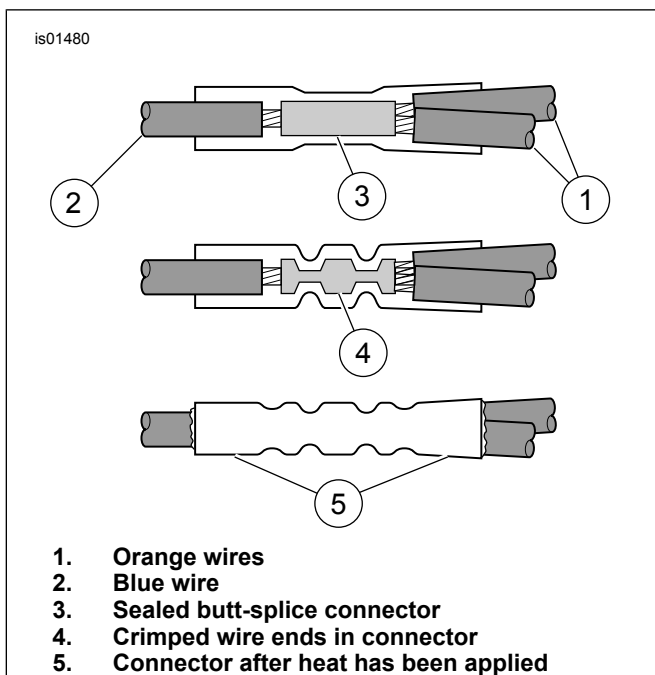

Figure 2. Installing Sealed Butt Connectors
- e. See Figure 2. Insert the ends of both orange wires (1) and the blue wire (2) from the stop lamp relay into the sealed butt-splice connector (3) from the kit.
- g. See Figure 2. Using the UltraTorch UT-100 (H-D 39969), Robinair Heat Gun (H-D 25070) with Heatshrink Attachment (H-D 41183), or other suitable radiant heating device, heat the crimped splice to encapsulate the butt splice connection. Apply heat from the center of the crimp out to each end until the meltable sealant extrudes out of both ends of the connector (5). Let the connector cool.